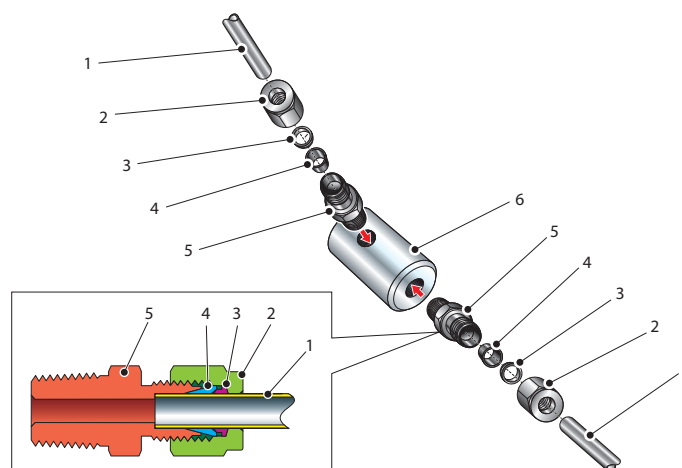

Figure 22 *Sample Block Gas Connections*
Sample gas connections are made to the Gas In and Gas Out ports on the sample block see *Figure 22*. Either port on the sample block may be used as the Gas Input port (i.e. for connection purposes the ports are interchangeable).
Both the Input and Output gas connections are  $\frac{1}{8}$ " NPT. It is recommended that both the Gas Input and Output connections are made via  $\frac{1}{8}$ " NPT to 6mm or  $\frac{1}{8}$ " NPT to  $\frac{1}{4}$ " stainless steel tube adaptors (2 to 5 – *Figure 22*). The method of connection to the sensor block (6) is as follows:
1. Cut a suitable length of 6mm ( $\frac{1}{4}$ " U.S.) stainless steel tubing (1) to the correct length and, if necessary, bend to shape to suit the location of the sensor block assembly. **NOTE: To facilitate ease of connection to the port, at least 75mm (3") of the tubing coming out of the Gas In port must be straight.**
3. Screw the  $\frac{1}{8}$ " NPT ( $\frac{1}{4}$ " U.S.) NPT Swagelok adaptor (5) into the  $\frac{1}{8}$ " NPT ( $\frac{1}{4}$ " U.S.) NPT inlet port in the sensor block (6) and tighten to a torque setting of 35 Nm (25 lbf-ft).
4. Pass the stainless steel tubing (1) through the locking nut (2). NOTE: Threads towards the gas port.
5. Fit the back ferrule (3) over the stainless steel tubing (1) with the bevelled end facing the back of the front ferrule (4).
6. Place the front ferrule (4) over the stainless steel tubing (1), bevelled end towards the adaptor (5).
7. Push the stainless steel tubing (1) as far as it will go into the adaptor (5) and tighten up the locking nut (2) finger tight.
8. Hold the adaptor (5) flats with a spanner and tighten up the locking nut (2) to a torque setting of 35 Nm (25 lbf-ft) (1¼ turns). This action compresses the front ferrule (4) and back ferrule (3) onto the tubing to form a gas tight seal.